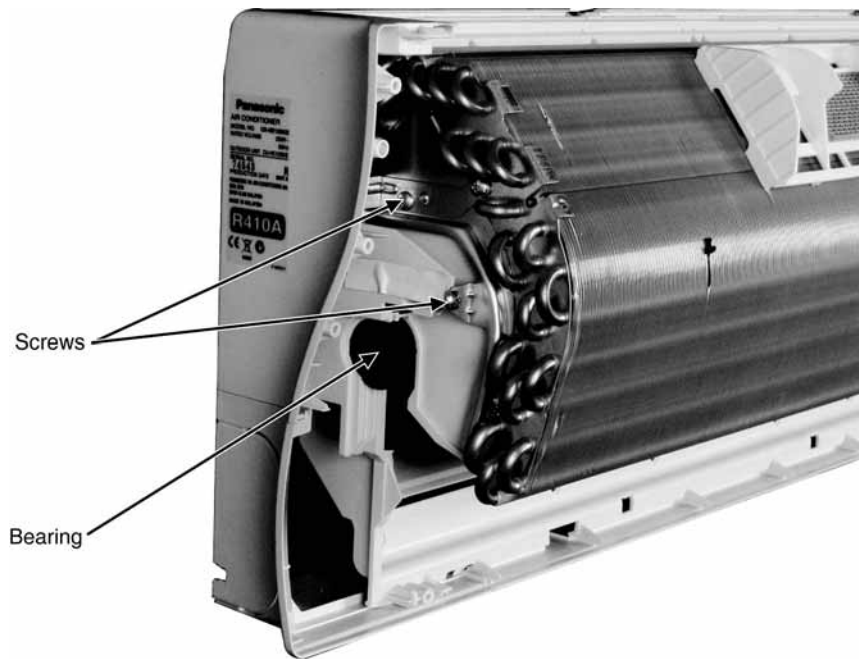

Fig. 12
7. Remove the screw on the left side of evaporator. (Fig.12)
9. Remove the bearing. (Fig.12)